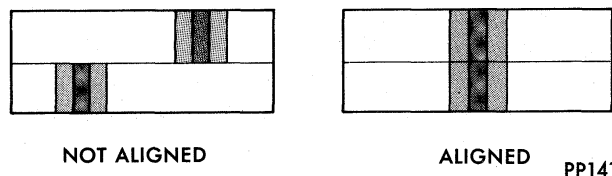

Fig. 2—Split Image Alignment
(4) Look into top port hole of Unit A. Turn horizontal knob until split image is aligned (Fig. 2 and 3).